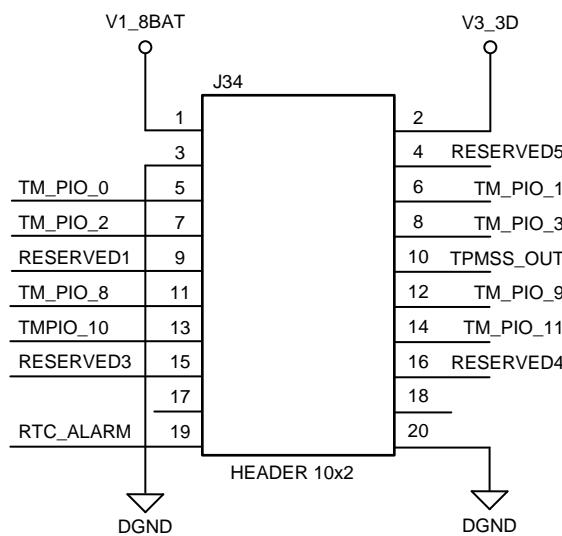

図 16. Wire Mesh Header
- Make connection should be made according to the pin connections mentioned in 図 16.